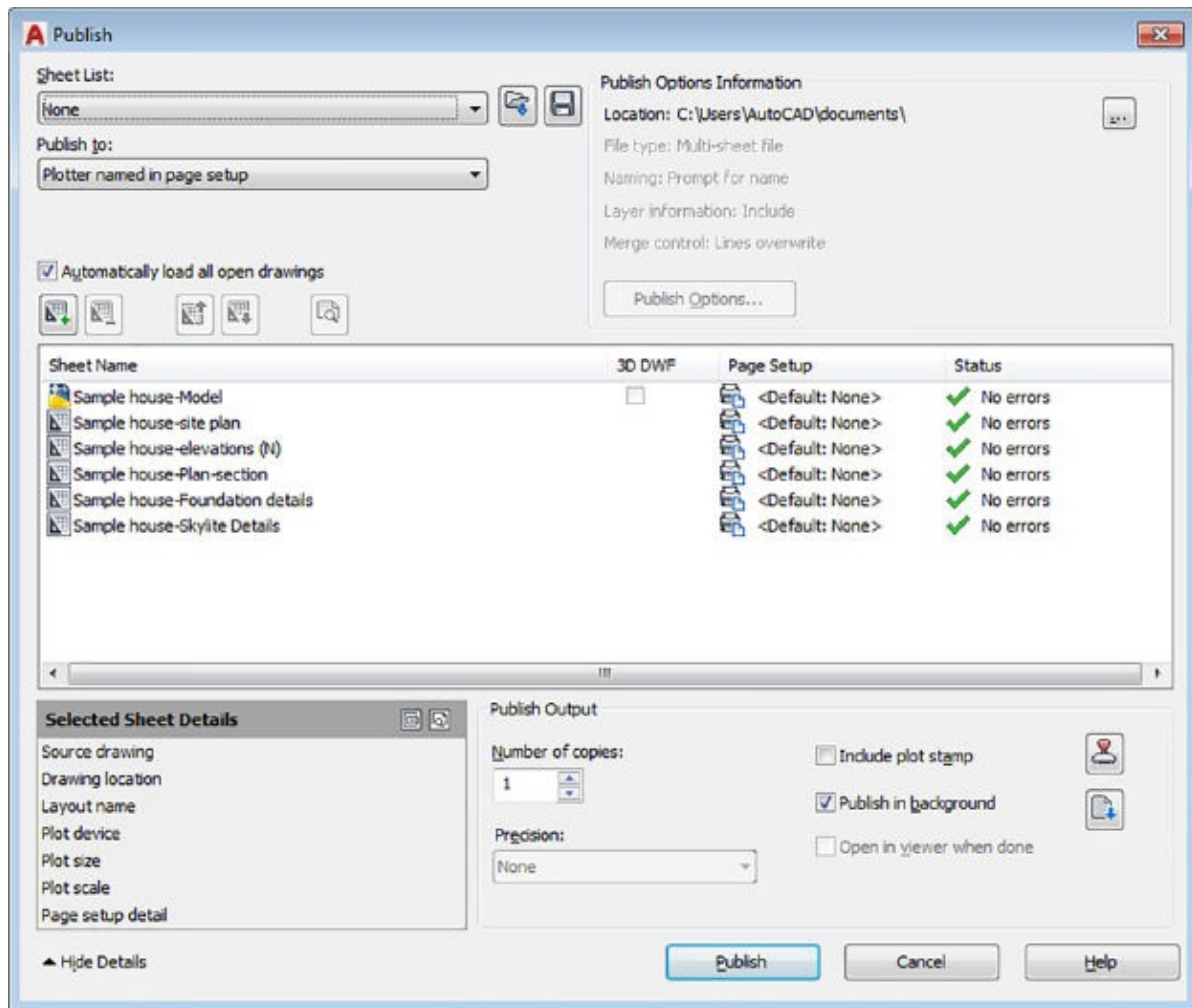

FIGURE 25.8 Choosing the layouts to publish
3. Choose Publish from the Application menu to open the Publish dialog box (see Figure 25.8). You can also type **Publish**↵. The dialog box lists all the layouts in its main list box, including the Model layout, which is equivalent to the Model Space tab. (See Chapter 8, "Introducing Printing, Plotting, and Layouts," for more on layouts.)